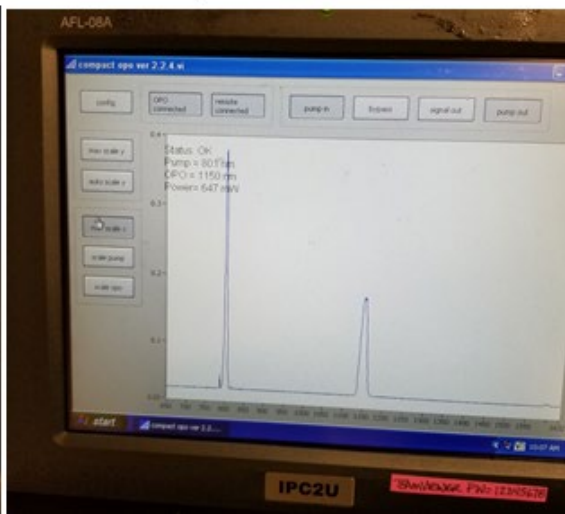

Figure 6: OPO interface
- b. When system is not running, the OPO tablet (on laser table) will indicate the pump laser is 'not available' (Figure 6 below). When the chameleon laser is outputting a beam (done via Zen software) without the OPO on, the OPO tablet status will change to "bypass" and the tablet will display a peak at the wavelength that the chameleon laser output is set to.